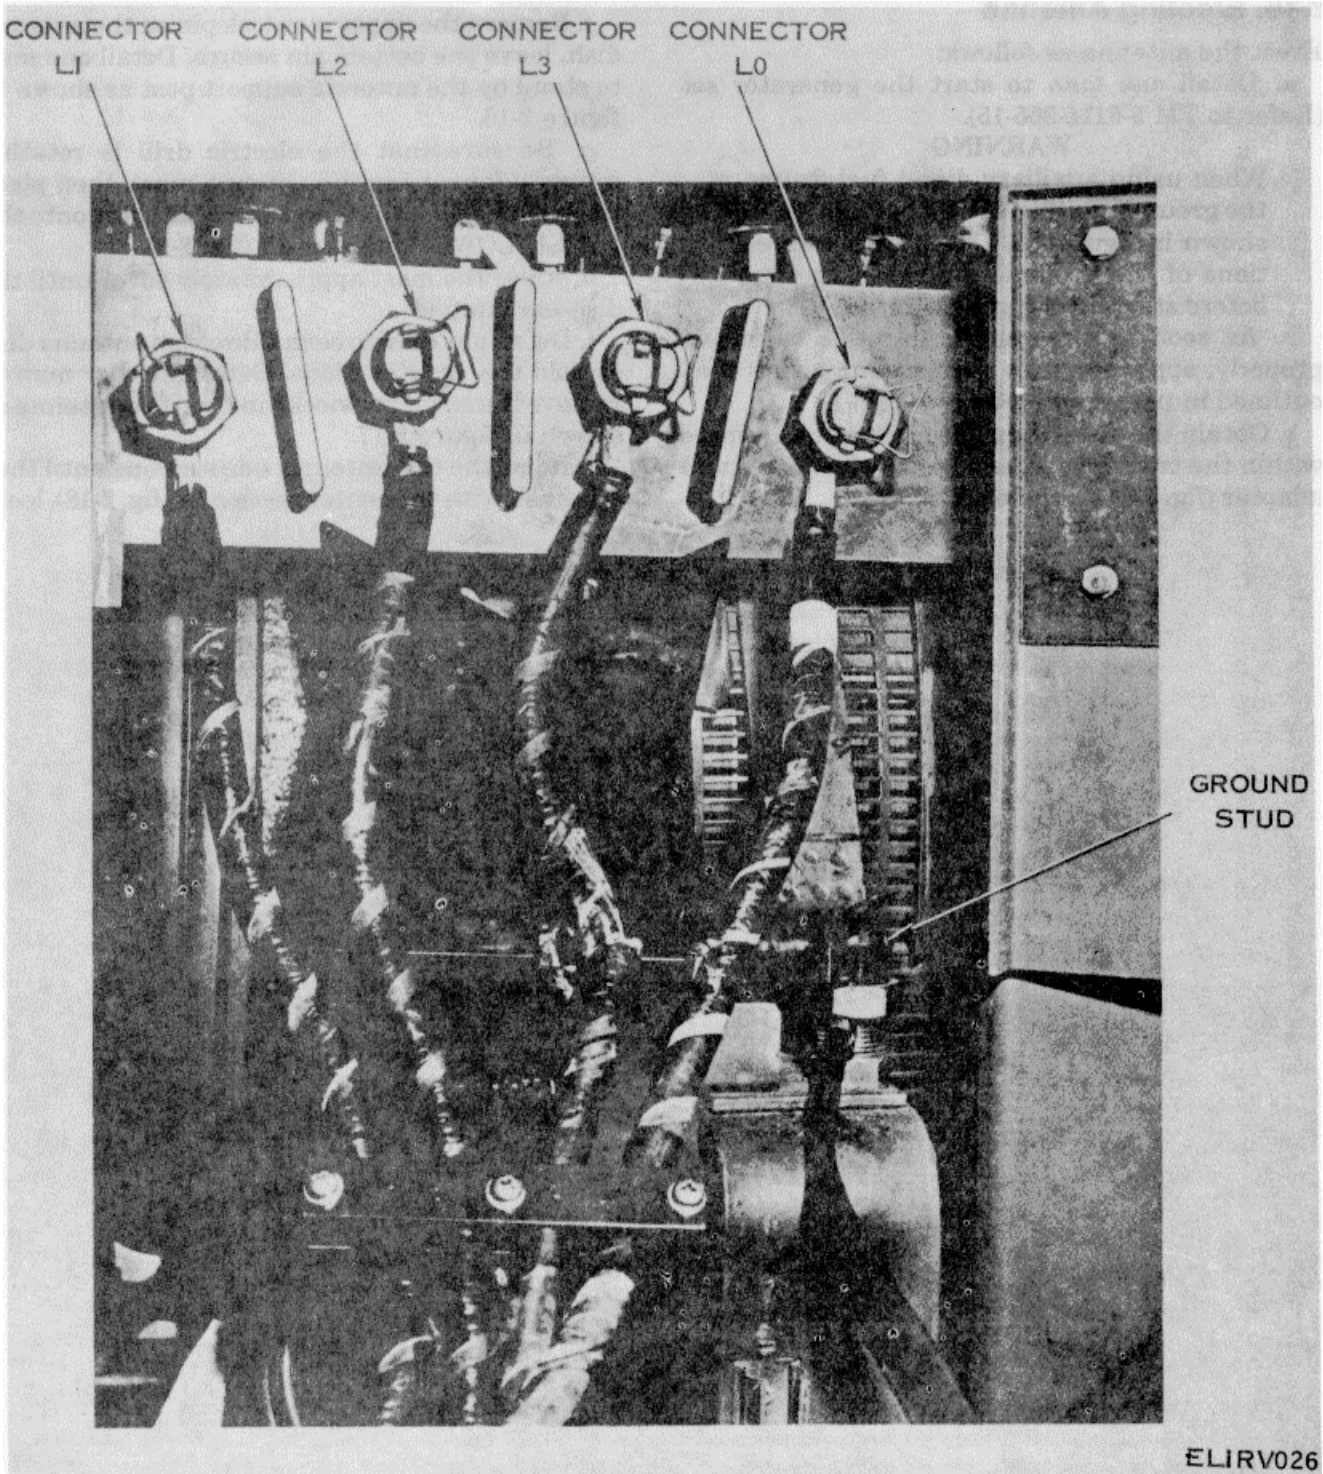
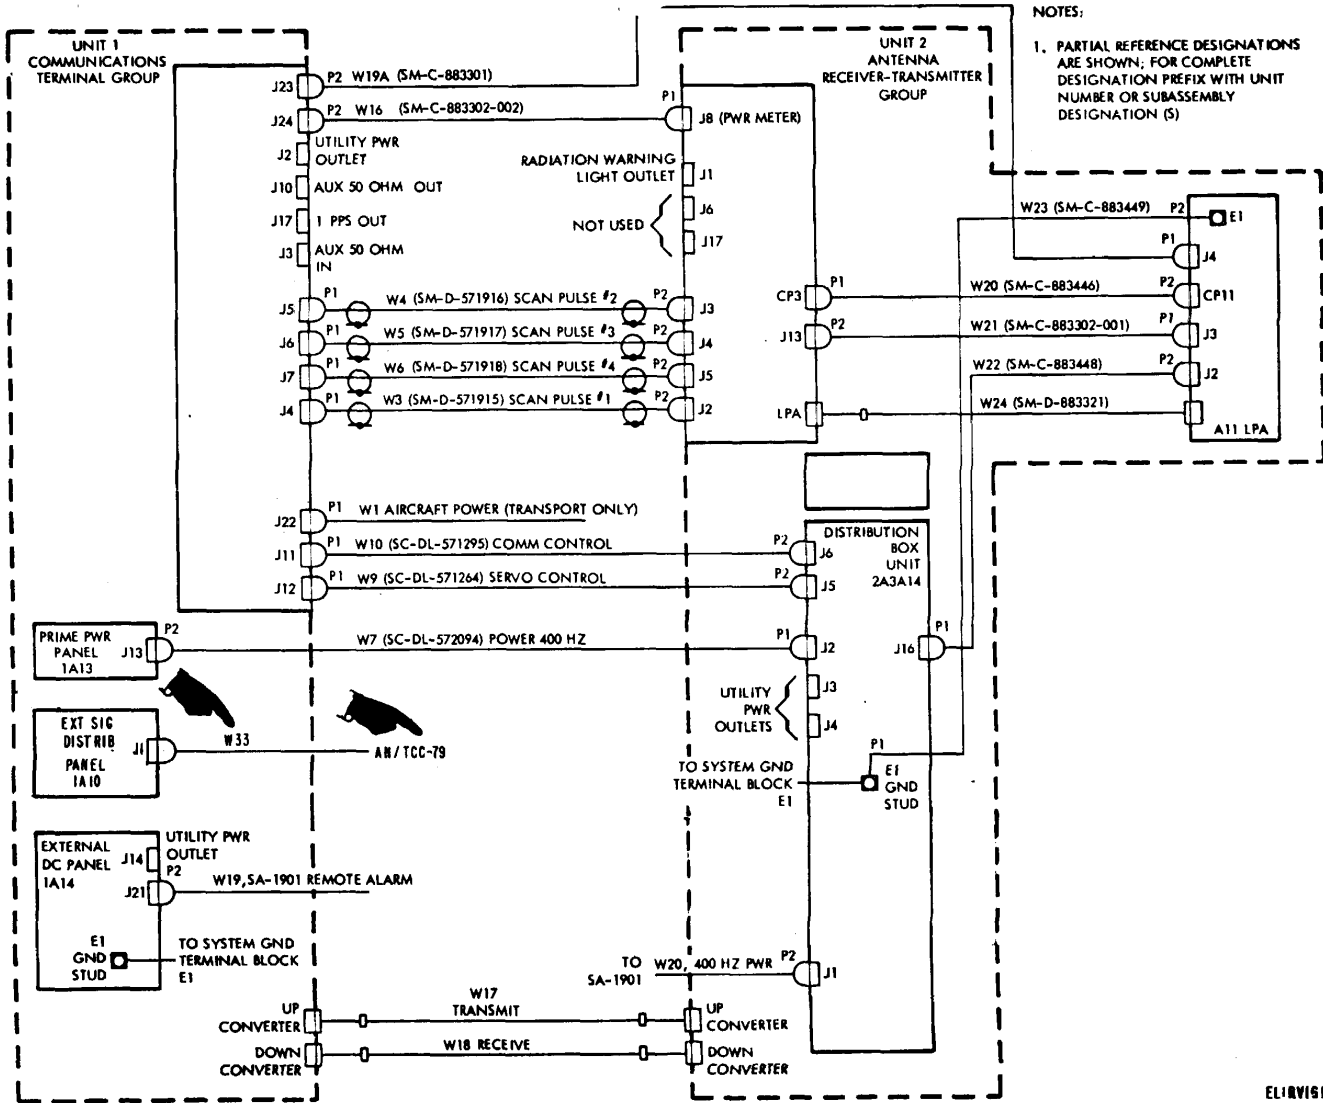

Figure 2-12. Typical generator set load box connections.
Figure 2-13. AN/TSC-54, cabling diagram.
a. Each system cable is marked with an identifying wire (W) number and P1 and P2 connector designations. The cable connectors are conventional plug-in and screw-tight types.
b. Terminal lug connections on the generator set load box (fig. 2-12) are secured with the special wrench attached to the generator set. The connections are L1 to L1, L2 to L2, L3 to L3, and L0 to L0; the shield is connected to the ground stud on the generator set. Figures 2-13 through 2-15 show the cable connections between the antenna pedestal and the shelter.
c. Unreel the cables and connect them in accordance with figures 2-12 through 2-15 and the following cable list which identifies the terminations for each of the cable connectors.